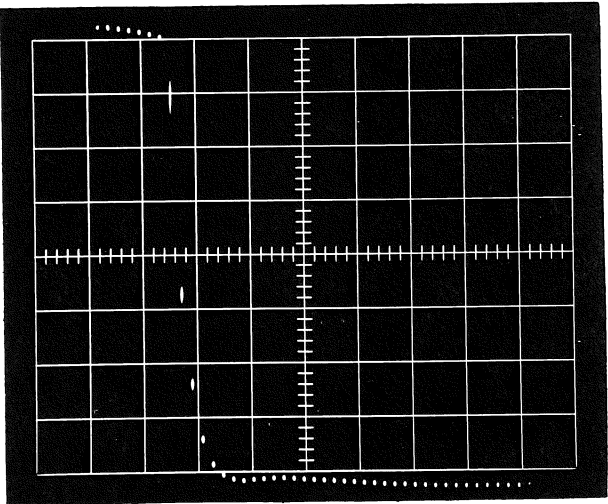

Fig. 5-3. Proper adjustment of SMOOTHING control.
- c. Set the Type 5T1A SWEEP TIME/CM switch to 1 nSEC. Adjust the Type 453 Channel A SMOOTHING control and the Type 5T1A TIME POSITION control until the pulse fall has between two and four dots. Do not adjust the SMOOTHING control so far clockwise that the pulse overshoots. See Fig. 5-3.